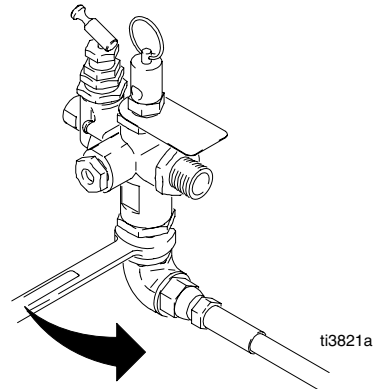

Fig. 15 _____
3. Remove right angle fitting. Fig. 15.